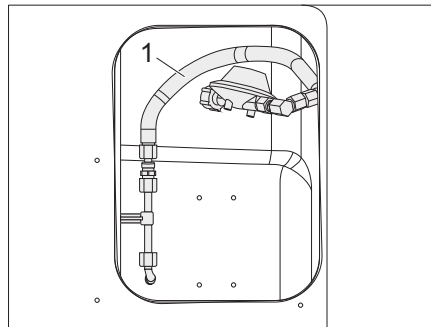

Fig. 67 Connecting the gas hose to the supply
- Screw the pre-assembled gas hose (Fig. 67, 1) onto the vehicle's supply line.